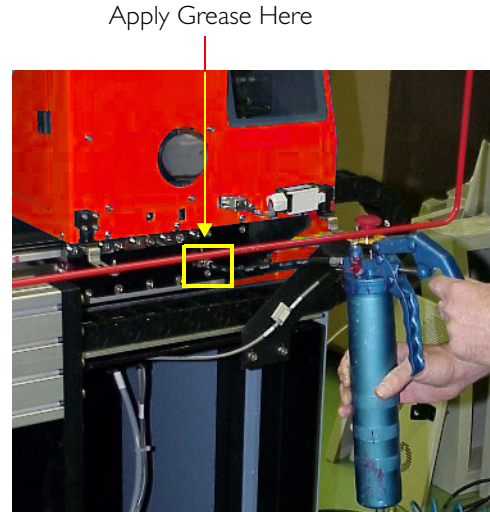
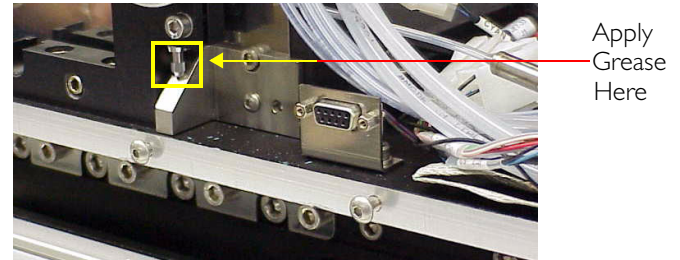

Figure 24. **Applying Grease to the Front Nipple**
Figure 25. **Second Grease Nipple at Front**
5. Using the grease gun, apply a small quantity of grease to each of the two nipples at the front of the head carriage as shown in Figure 24 and Figure 25.